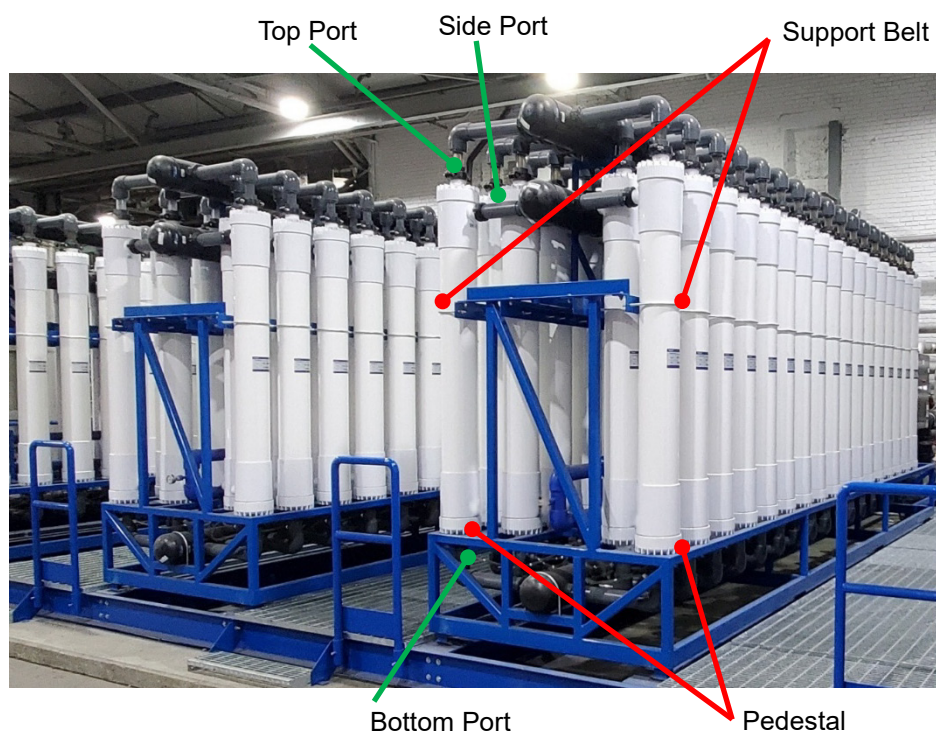

Figure 7-2: Example of Rack Structure
5. As shown in Figure 7-2, connect the rack piping to the module at its three ports. The maximum fastening power of the housing type joints should not exceed 40 Nm. For the connections, use housing type joints and tighten by hand. Before tightening or loosening housing type joints, make sure there is enough space to work safely, and be cautious to avoid injury to your fingers or other parts of the body.